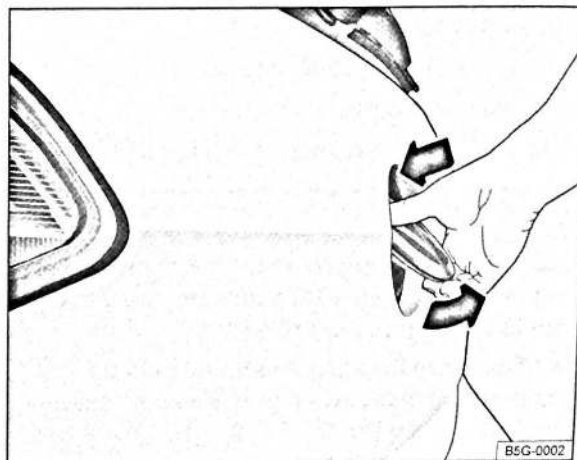

Fig. 37 Opening the tailgate from the outside
- Press the top part of the Volkswagen badge $\Rightarrow$ Fig. 37 with your thumb and push out the bottom part of the badge. Grip underneath the badge and lift up the tailgate.